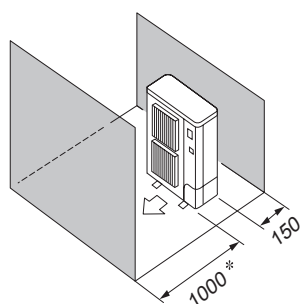

Fig. 3-10
- Obstacles at front and rear only (Fig. 3-10)